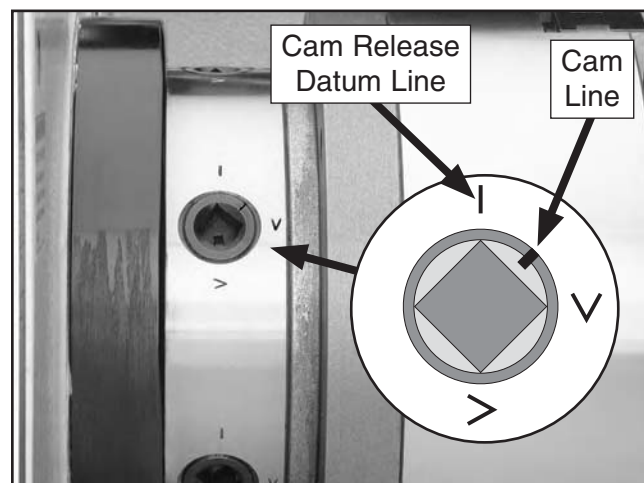

Figure 32. Camlock loosened counterclockwise halfway.
3. Use the chuck key to turn the first camlock counterclockwise until the cam line is between the right "V" mark and the cam release datum line, as shown in **Figure 32**.